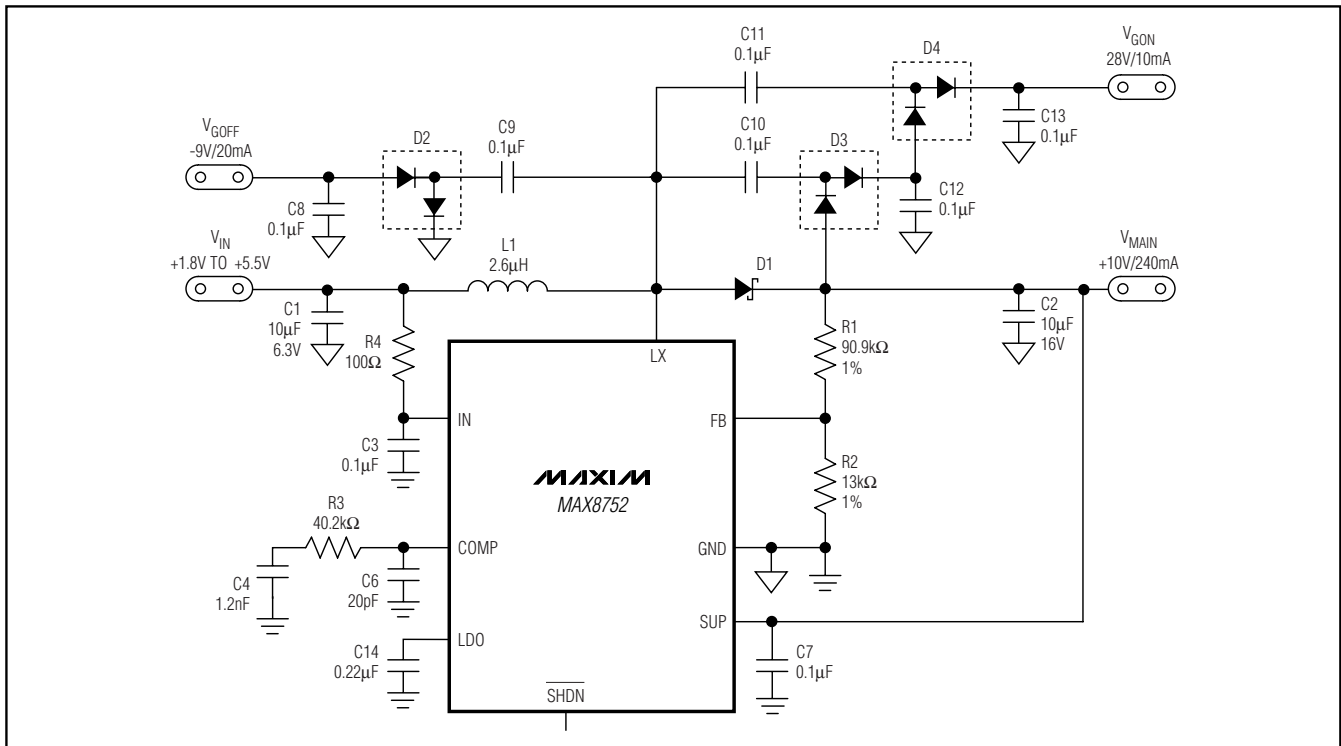

Figure 1. Typical Applications Circuit
(Circuit of Figure 1, $V_{IN} = 2.5V$, $V_{MAIN} = 10V$, $T_A = +25^{\circ}C$, unless otherwise noted.)
(Circuit of Figure 1, $V_{IN} = 2.5V$, $V_{MAIN} = 10V$, $T_A = +25^\circ C$, unless otherwise noted.)
The MAX8752 is a highly efficient, step-up power supply designed for TFT-LCD panels. The typical circuit shown in Figure 1 operates from an input voltage as low as 1.8V, and produces a MAIN output of 10V at 220mA from 2.5V input while supporting discrete diode-capacitor charge pumps that produce -9V at 20mA and +28V at 10mA. If the charge-pump outputs are not required, the diodes and capacitors associated with them may be eliminated and the main output increased to 270mA.
In Figure 1, the LCD's gate-on and gate-off voltages are generated from two unregulated charge pumps driven by the step-up regulator's LX node. The additional load on LX must therefore be considered in the inductance calculation. The effective maximum output current I_{MAIN(EFF)} becomes the sum of the maximum load current on the step-up regulator's output plus the contributions from the positive and negative charge pumps:
Considering the Typical Applications Circuit (Figure 1), the maximum load current (I_{MAIN(MAX)}) is 180mA with a 10V output and a typical input voltage of 2.5V:
The input capacitor (C_{IN}) reduces the current peaks drawn from the input supply and reduces noise injection into the IC. A 10 μ F ceramic capacitor is used in the Typical Applications Circuit (Figure 1) because of the high source impedance seen in typical lab setups. Actual applications usually have much lower source impedance since the step-up regulator often runs directly from the output of another regulated supply. Typically, C_{IN} can be reduced below the values used in the Typical Applications Circuit. Ensure a low noise supply at IN by using adequate C_{IN} . Alternatively, greater voltage variation can be tolerated on C_{IN} if IN is decoupled from C_{IN} using an RC lowpass filter (see R3 and C3 in Figure 1).
The MAX8752 operates with an adjustable output from V_{IN} to 13V. Connect a resistive voltage-divider from the output (V_{MAIN}) to GND with the center tap connected to FB (see Figure 1). Select R2 in the 10k Ω to 50k Ω range. Calculate R1 with the following equation:
- 4) Place the SUP and LDO bypass capacitors and the IN bypass capacitors (C3 in Figure 1) if within 5mm of their respective pins. Connect their ground terminals to GND through the IC's exposed back paddle near GND (pin4).